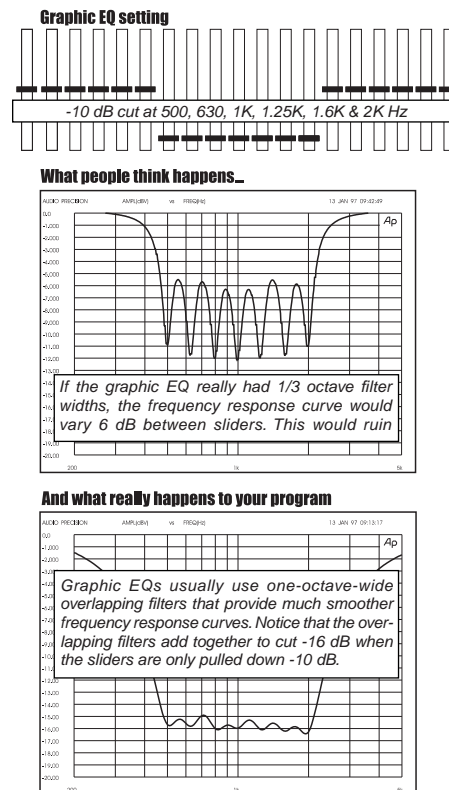

Fig. 15a What a Graphic EQ does to your Program
2. A second advantage is that FBX micro-filters are precisely placed anywhere feedback occurs (with 1 Hz resolution), while graphic EQ filters are limited to 31 fixed center points. An FBX filter represents a direct hit on feedback! In contrast, a graphic EQ filter can only approximate the exact frequency of the feedback, and the filter (or filters) with the closest center frequency must be pulled down. Such filters are deepest at their centers, and such imprecise attenuation takes a big (and unnecessary) chunk out of your sound (see Fig. 15a).